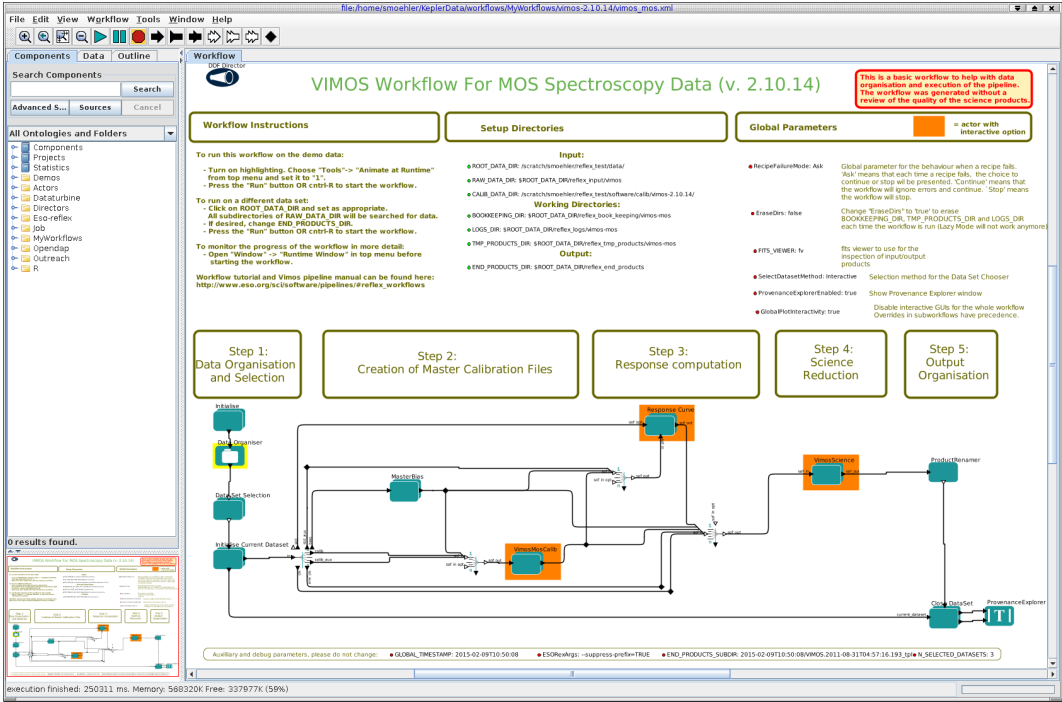

Figure 4.2: *VIMOS/MOS workflow general layout.*
2. Now open the VIMOS workflow by clicking on File -> Open File, selecting first vimos-3.0.2 and then the file VimosMos.xml in the file browser. You will be presented with the workflow canvas shown in Figure 4.2. Note that the workflow will appear as a canvas in a new window.